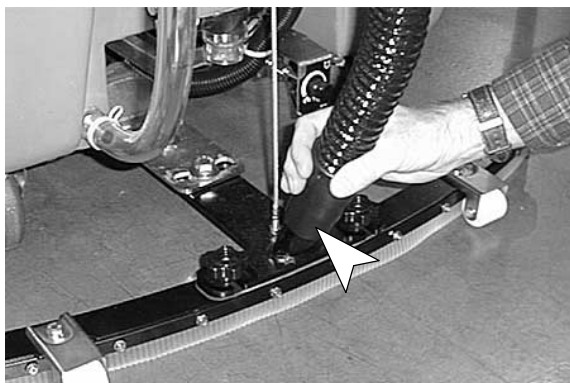

FIG. 5
5. Connect vacuum hose from machine to squeegee assembly (*Figure 5*).